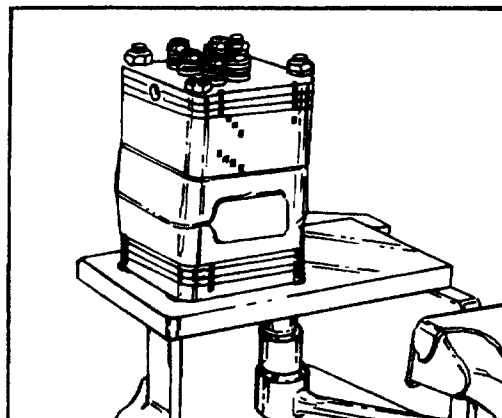

FIGURE 3.
1. To avoid distorting or damaging the unit, do not clamp it directly into a vise. Clamp a service assembly fixture described in figure 1, page 2-28, securely in a vise, see figure 3, and place the unit, input shaft/wheel tube first, into the service assembly fixture. Attach the unit to the fixture with four 5/16-24 UNF nuts. See figure 3.